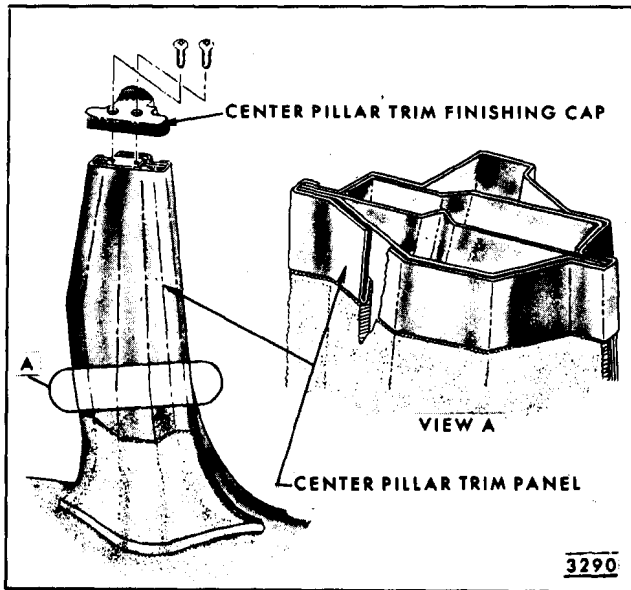

Fig. 13-27-Center Pillar Trim Attachment "A, B and C" Hardtop Styles
- On hardtop styles, remove attaching screws securing trim finishing cap (Fig. 13-27). Then, remove trim from pillar by lifting straight-up to clear retaining flanges.